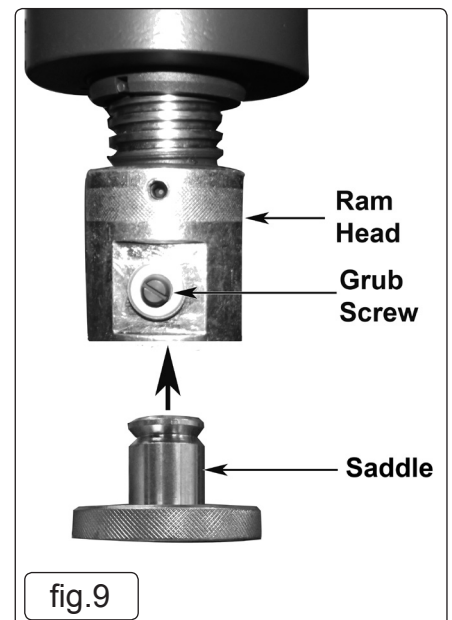

fig.9
- 5.2.1. Insert the saddle into the ram head and secure with the grub screw (fig.9).